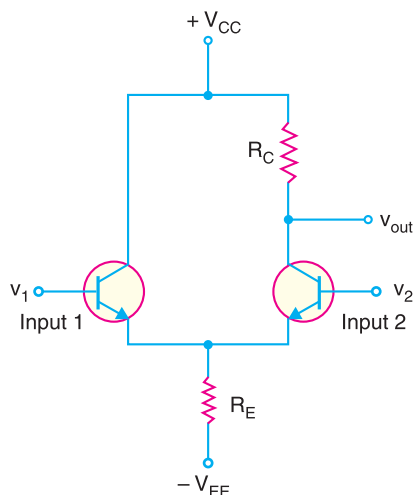

Fig. 25.20
Fig. 25.20 shows double-ended input and single-ended output differential amplifier (DA). In other words, there are two input signals and one output signal. *A DA is normally operated in this fashion.* When input signal v_1 (input 1) is applied, the output signal is in phase with the input signal *i.e.*, there is no phase shift in the output signal. For this reason, input signal v_1 is called *non-inverting input*. When input signal v_2 (input 2) is applied, the output signal is 180° out of phase with the input signal. For this reason, input signal v_2 is called *inverting input*.